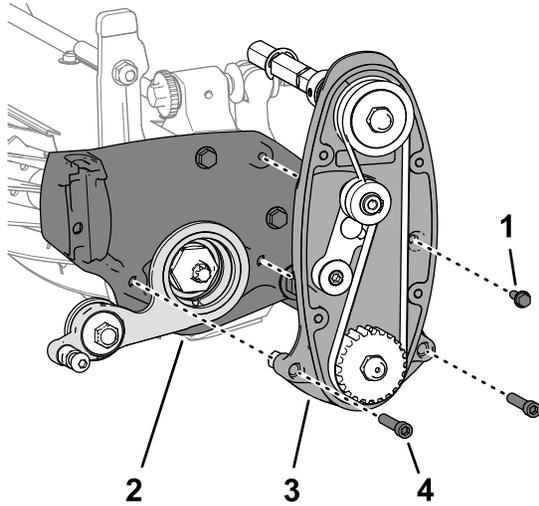

Figure 17
1. Align the idler assembly to the cutting unit as shown in Figure 17.
2. Assemble the idler assembly and reel drive to the cutting unit (Figure 17) with the 2 socket-head screws (5/16 x 1-1/2 inches) and locknuts (5/16 inch) that you removed in 3 Removing the Reel-Drive \(page 5\).
3. Assemble the reel drive to the cutting unit (Figure 17) with the flange-head screw (1/4 x 3/4 inch).